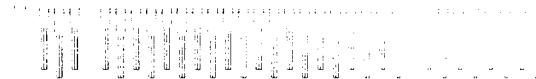

Fig. 9—927B, E, or E2 Connector
- (b) **927B:** The 927B connector (Fig. 9) is equipped with 62 spring terminals in all positions that are arranged for two mechanically wrapped connections of 24-gauge wire. This connector is used in the 820A1 and B1 data sets and the 85A1 main station controller.
(e) **927E:** The 927E connector (Fig. 9) has the length of its 62 terminals increased to accommodate three wraps of 24-gauge or two wraps of 26-gauge wire (three of No. 26, if precautions are observed). This connector is used in the Engineering and Administration Data Acquisition System (EADAS).
(f) **927E2:** The 927E2 connector (Fig. 9) has the length of its 62 terminals increased to accommodate three wraps of 24-gauge or two wraps of 26-gauge wire (three of No. 26, if precautions are observed). The 927E2 connector is equipped with a molded housing of light green diallyl phthalate and is used on EADAS.